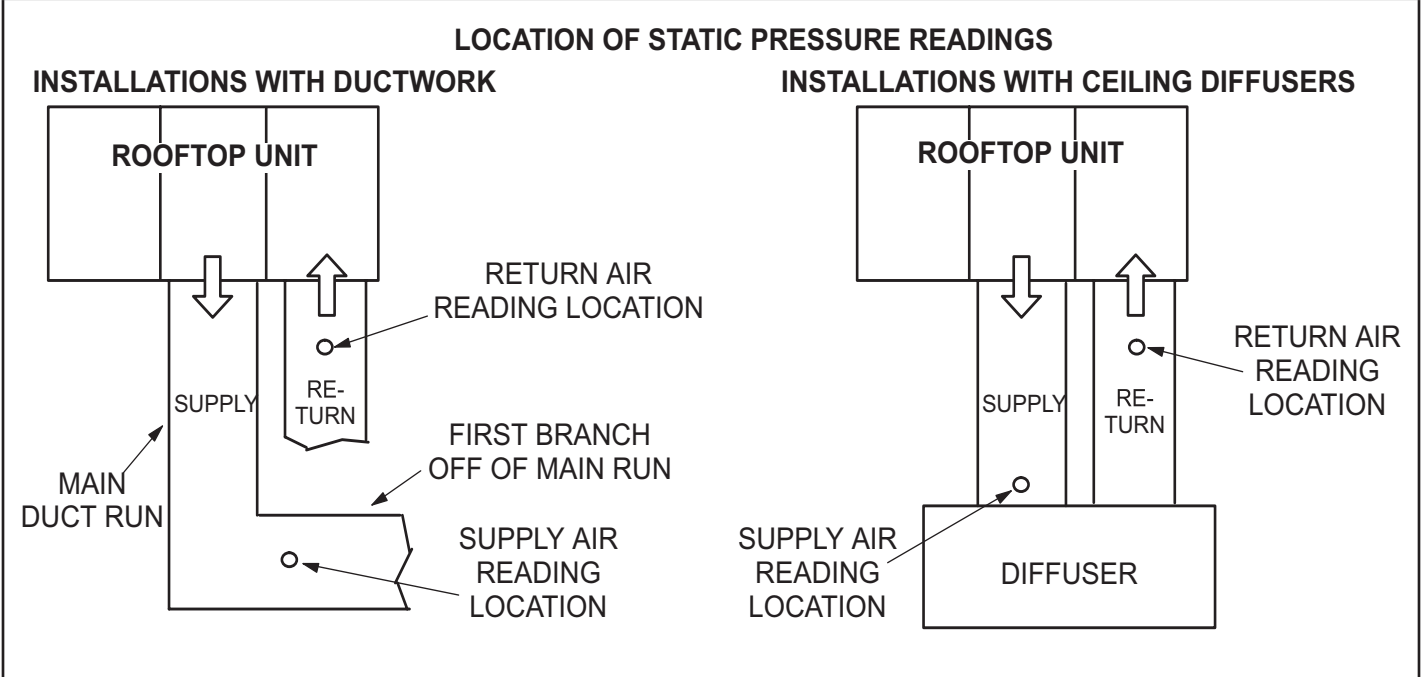

FIGURE 13
- 2 - With all access panels in place, measure static pressure external to unit (from supply to return). Add any additional air resistance for options and accessories shown in accessory air resistance tables. Blower performance data is based on static pressure readings taken in locations shown in FIGURE 13.